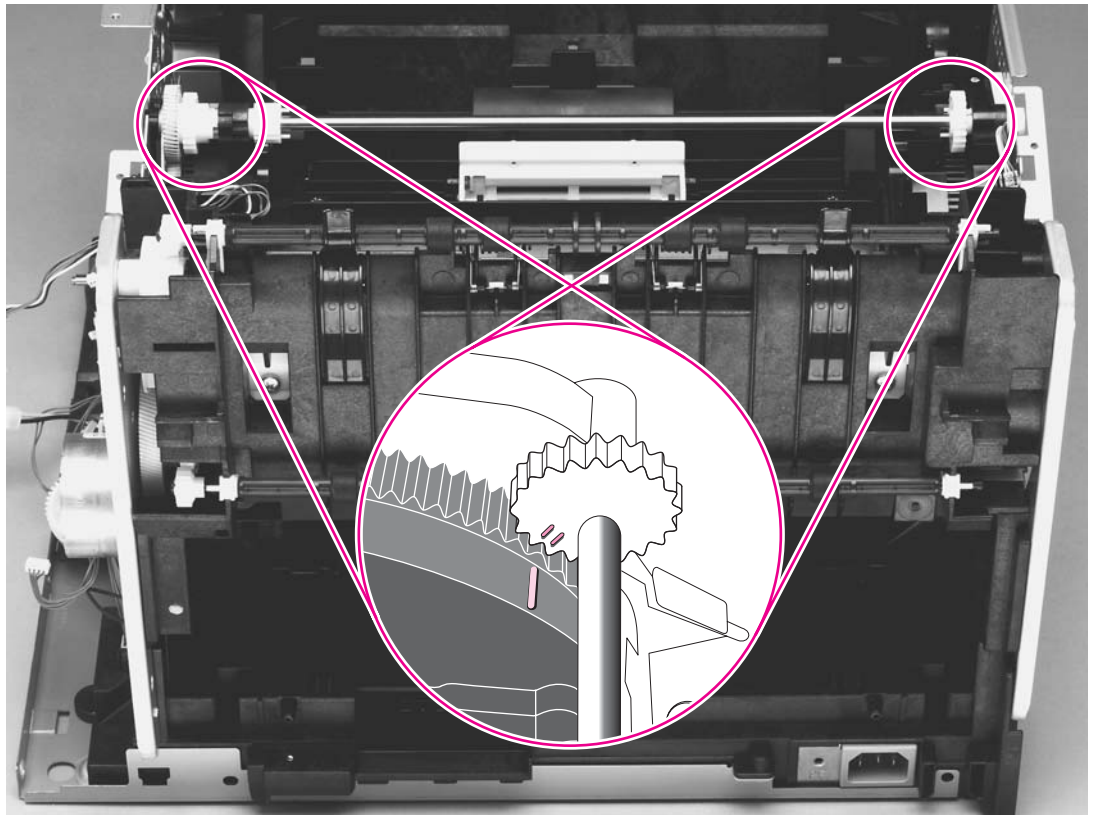

Figure 5-48. Reinstalling the print-cartridge carousel
2. Examine the gears: two marks on the smaller gear should line up with the single mark on the larger gear (see the detail of the gears in Figure 5-48. Reinstalling the print-cartridge carousel).